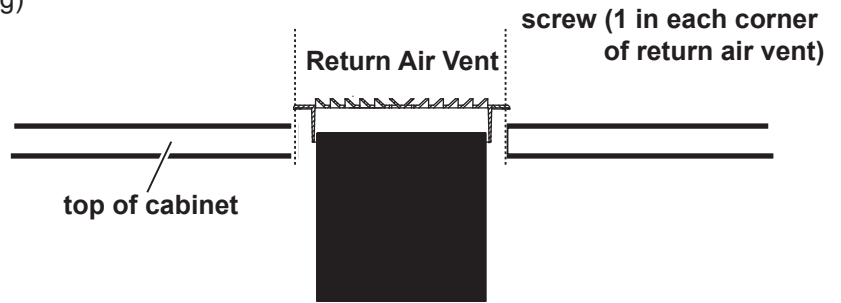

FIG.1
1. Cut a 6-1/2" round opening in top of the cabinet where the ducting will connect to the return air vent. **FIG.1**
3. Secure return air vent to top of cabinet with (4) screws.